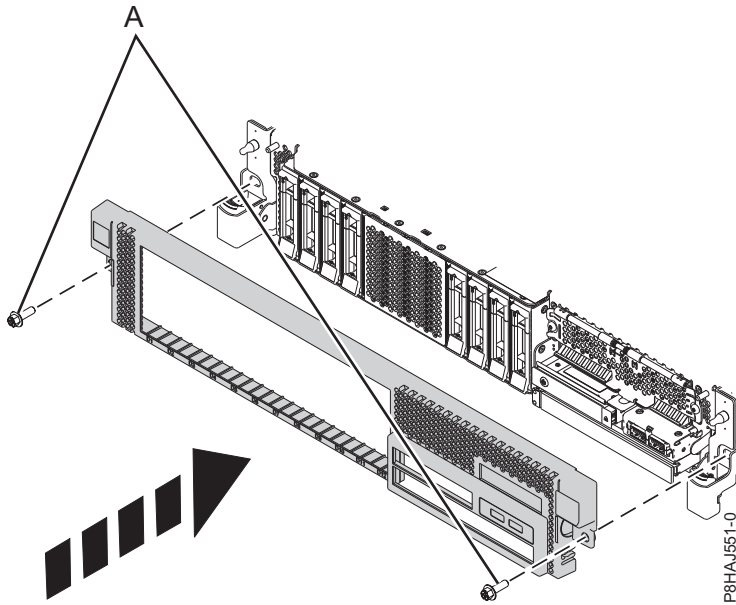

Figure 136. Installing the front cover
3. Close the release latches by pushing in the direction shown in Figure 136 on page 154. The cover snaps into place and has an indentation where you can hold onto it more easily.
4. Replace the shipping screws (A).